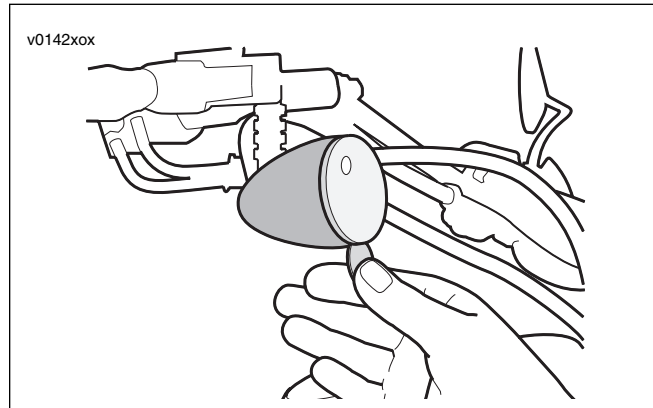

Figure 8-1. Latch Slot
1. See Figure 8-1. Locate latch slot on circumference of turn signal lens. Press in with small screw driver or coin to remove lens.